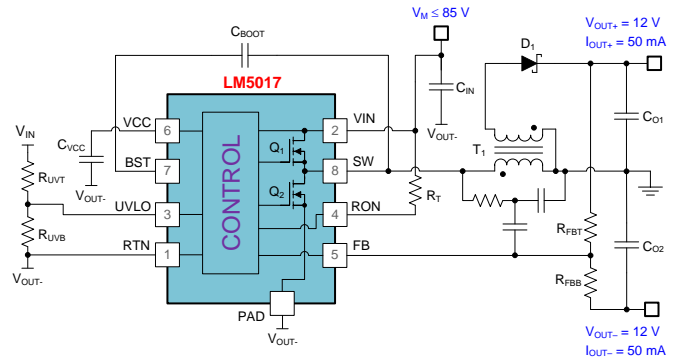

Figure 5. LM5017 Fly-Buck-Boost converter
Related to the Fly-Buck, the **Fly-Buck-Boost** is another useful circuit for drone applications, especially if low input voltage operation or a negative-polarity output is required. **Figure 5** shows the **LM5017**, a 100-V, 0.6-A synchronous buck converter configured to provide nonisolated \pm 12-V rails.
In **Figure 5**, the GND of the LM5017 device is referenced to V_{OUT-} , and the feedback loop regulates the total of V_{OUT+} and V_{OUT-} , for balanced and symmetric startup and transient response behavior. Using an off-the-shelf unity turns ratio coupled inductor yields good load regulation performance and a low overall bill of materials cost. Moreover, the absence of a switch (SW) node voltage spike related to leakage inductance reduces **EMI filtering** requirements.